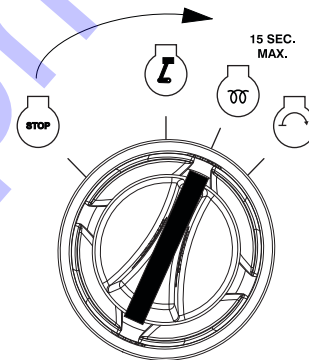

Figure 3-5. Activate Glow Plug
2. See **Figure 3-5**. Turn the key on the Engine Start switch to the right GLOW PLUG position and hold the key in place for 10–15 seconds.